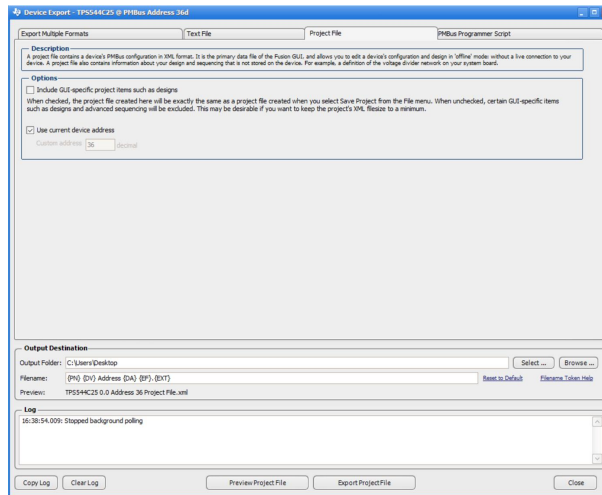

Figure 39. Exporting A Project File
1. Click File > Export > Project File and choose the file format (shown in Figure 39).